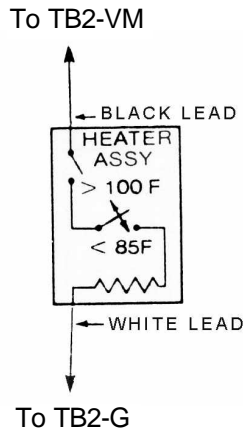

Figure 2.
The heater can be manually turned ON or OFF by means of the toggle switch located on the heater assembly. In the ON position, the thermostat located in the heater assembly will energize the heater when the temperature falls below 85°F. The thermostat turns the heater off when the temperature exceeds 100°F. Figure 2 is the schematic diagram of the heater and its connection to the regulator control.
4. Refer to Figure 2 and wire the heater to Terminal Board TB2 by: